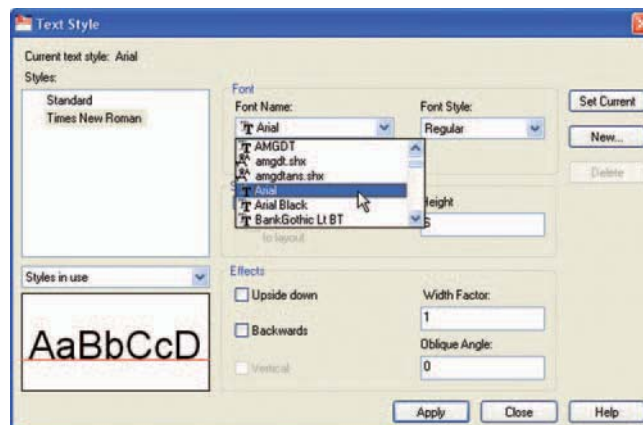

Fig. 4.8 The **Text Style** dialog
2. The **Text style** dialog appears (Fig. 4.8). In the dialog, *enter 6* in the **Height** field. Then *left-click* on **Arial** in the **Font name** pop-up list. **Arial** font letters appear in the **Preview** area of the dialog.